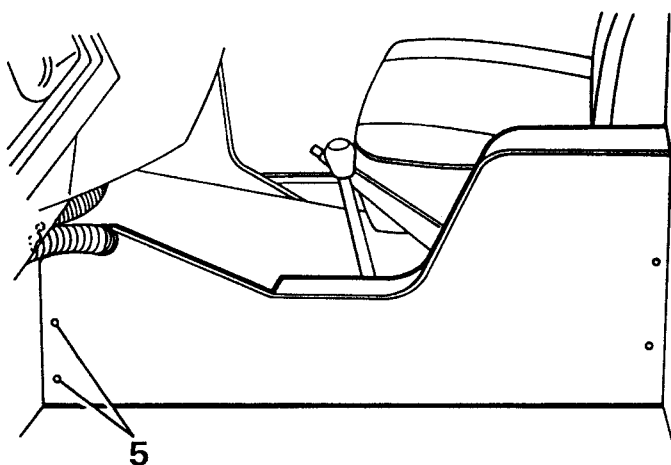

Figure 30
6. Remove the retaining screws (4 Off) and lift out the L.H. console panel with the R.H. side panel as one, see Figure 30.